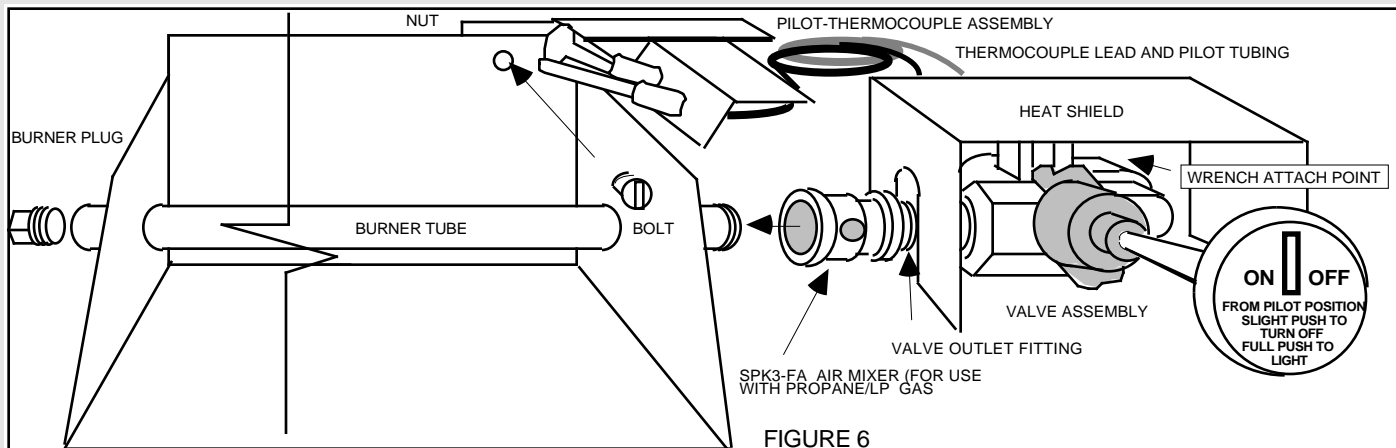

FIGURE 6
1. Verify factory assembly in accordance with diagram at FIGURE 6.